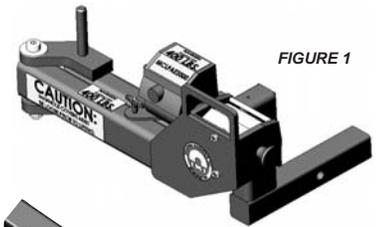

FIGURE 1
2. While in the folded position (Figure 1), Insert the PowerArm into your vehicle's Reese Hitch or equivalent 2" x 2" receiver. Line up hole in PowerArm and hitch. Secure with Hitch Pin (not included).